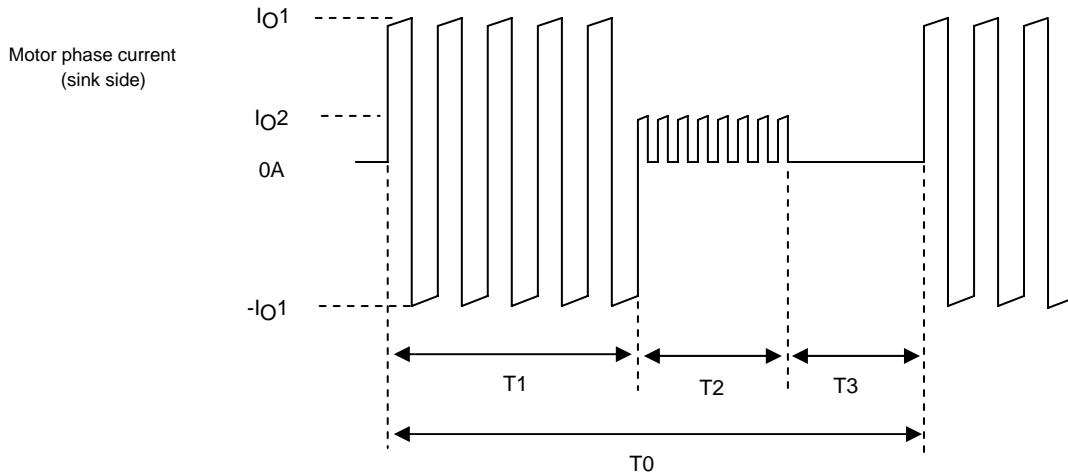

Figure 1 Motor Current Timing
Although the waveforms during avalanche mode are given in Figure 1, sometimes an avalanche does not result during actual operations.
- Increases in  $V_{DS}$ ,  $t_{AVL}$ , and  $I_{AVL}$  in Figure 1 due to an increase in the supply voltage from 24V to 36V.
If the factors above are negligible, the waveforms shown in Figure 1 become waveforms without avalanche as shown in Figure 2.
Calculate the internal HIC loss, PdAV, assuming repeat operation such as shown in Figure 1 below, since conduction during motor rotation and off time both exist during actual motor operations.
Note that figure 1 presents the concepts here, and that the on/off duty of the actual signals will differ.